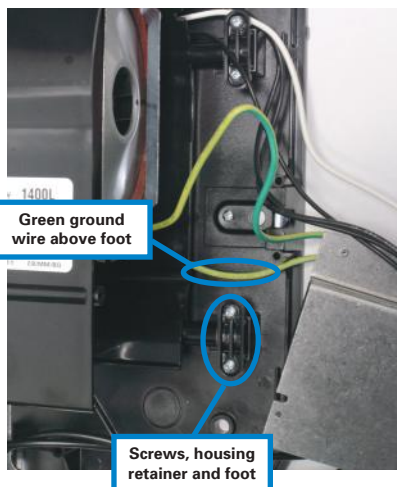

Figure 8
5. Remove the **two (2)** screws and one plastic housing retainer holding down the foot of the dryer. Refer to **Figure 8**.